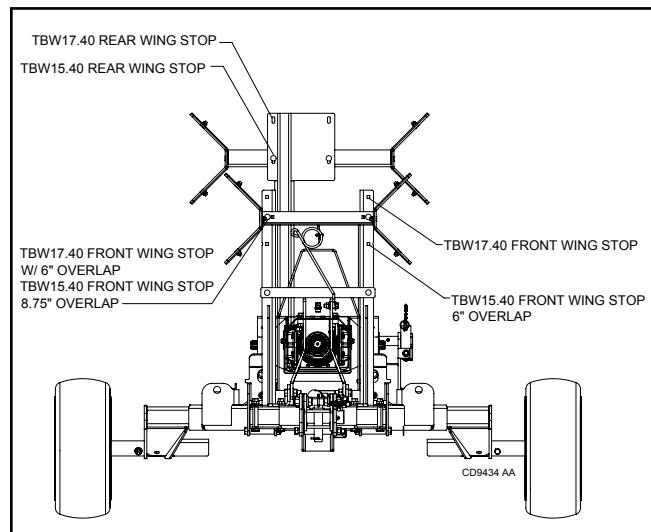

Figure 9. Wing Overlap Stops
5. Move front wing stop to new position per Figure 9.